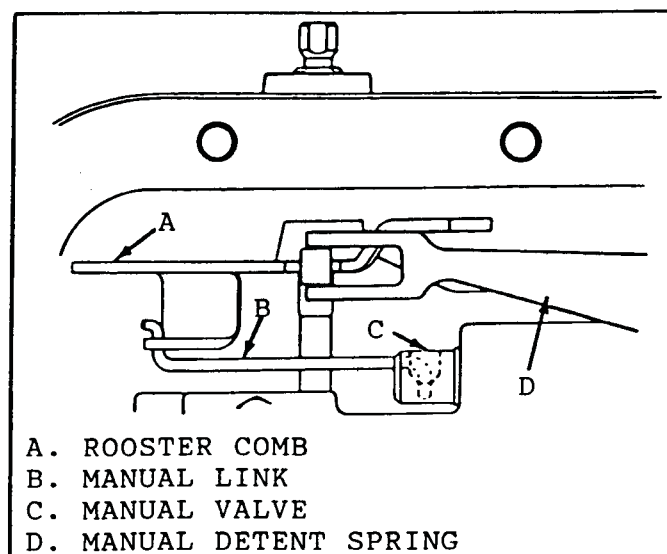

Figure 113
6. Install valve body assembly on transmission as you hook manual valve. See Figure 113.